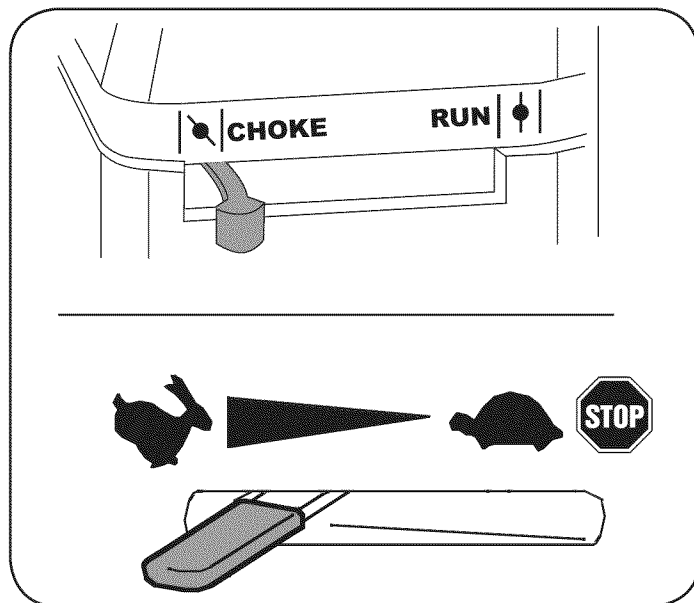

Figure 13
4. Move the choke lever on the engine to CHOKE position. (A warm engine may not require choking.) See Figure 13.
5. Move throttle control to START/RUN (Rabbit) position. See Figure 13.